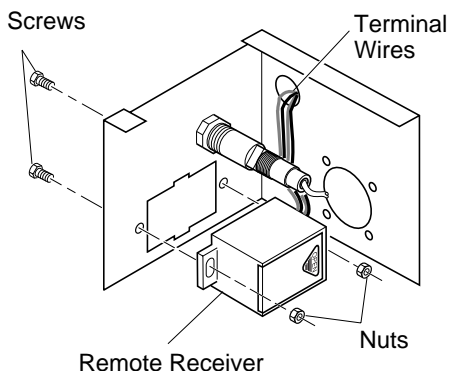
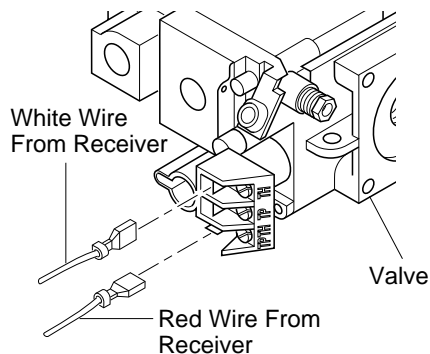

Figure 27 - Installing Remote Receiver
Figure 28 - Connecting Wires
4. Install remote receiver unit onto remote switch bracket using screws and nuts removed in step 2. See Figure 27
5. Route wires through hole in the upper portion of the switch plate (Figure 27). Connect wires as shown in Figure 28. (Black and blue wires are not used for this application.)